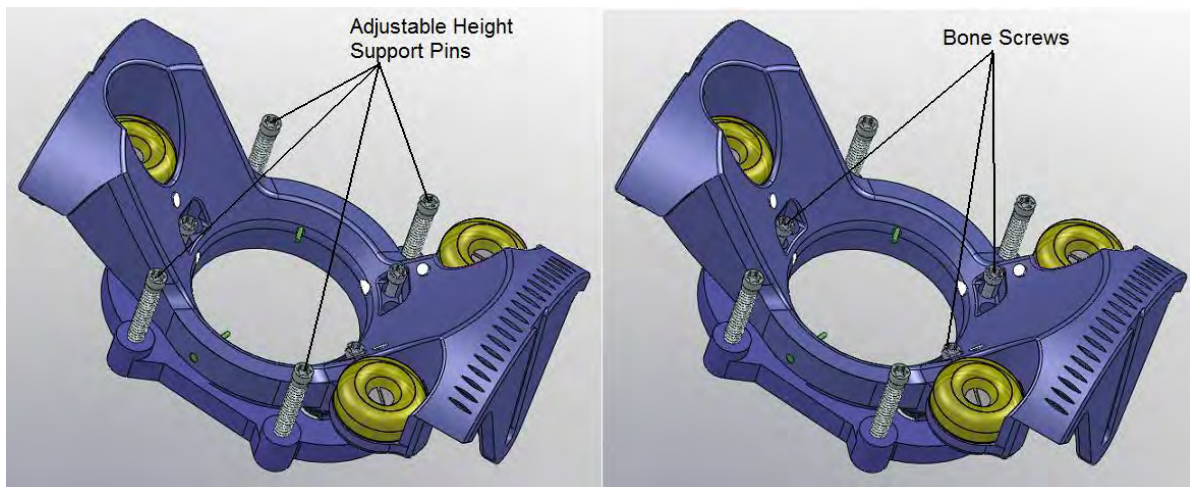
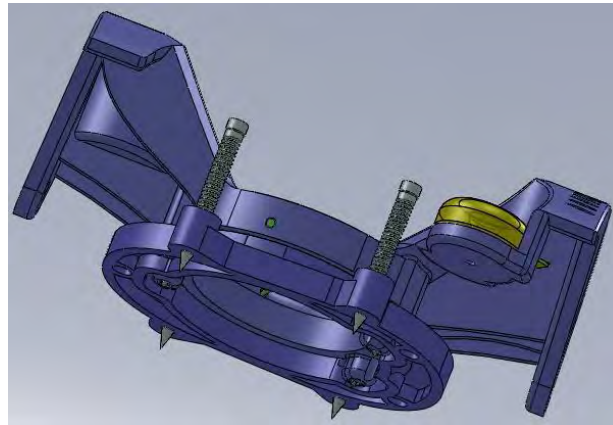

Figure 8: Adjustable Height Support Pins and Bone Screws for the Scalp Mount Base
Figure 9: Sharp Adjustable Height Support Pins
1. The Scalp Mount Base has four adjustable height support pins and three self-tapping bone screws. See Figure 8. The support pins have sharp tips. See Figure 9. They have small protective tubes covering them. Remove the tubes before proceeding.